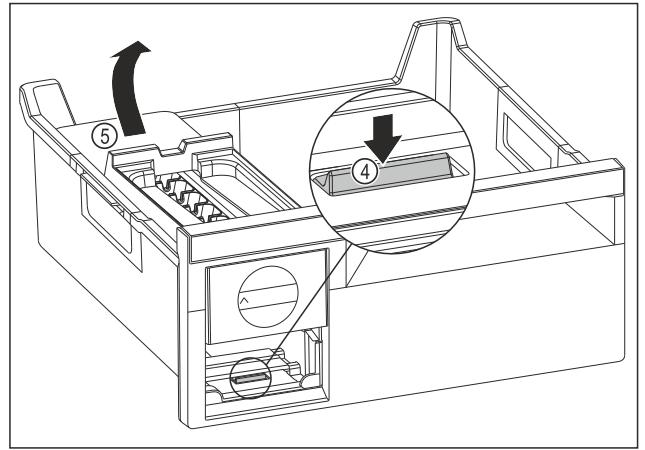

Fig. 120
- ▶ Removing the EasyTwist-Ice body: Use your finger to push the tab Fig. 120 (4) down and use your other hand to lift the EasyTwist-Ice body Fig. 120 (5) from behind at the same time.